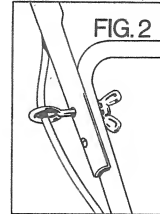

FIG. 2
2. The handle is assembled as shown in Figure 2. Tighten the two wing nuts on the bolts which hold the upper and lower handle sections together. Squeeze handle ends together slightly and lift to snap into tabs on mounting brackets.
NOTE: There are two holes in each side of the upper handle section (Fig. 2). To change handle height remove fasteners and replace them through the selected holes.